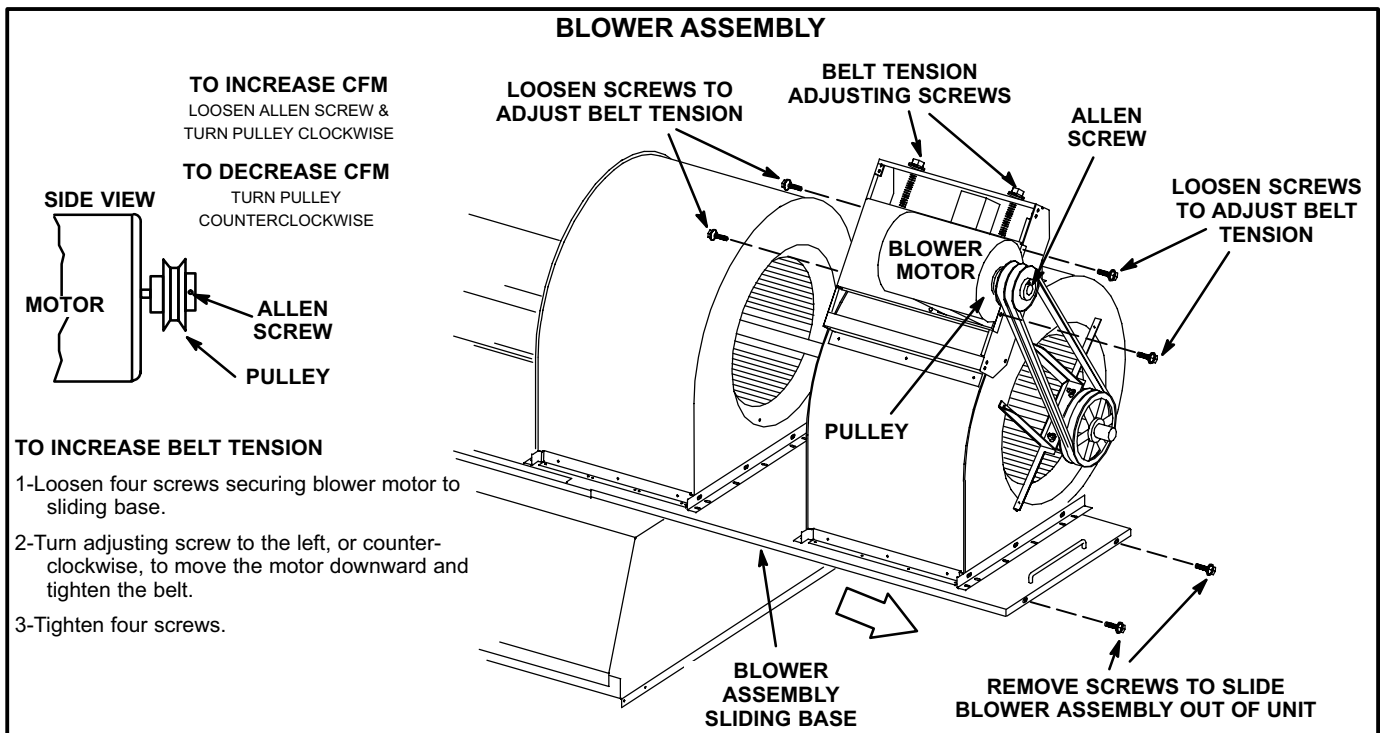

FIGURE 11
- 2- Remove screws on either side of blower assembly sliding base. See figure 11.
- 4- The blower RPM can be adjusted at the motor pulley. Loosen Allen screw and turn adjustable pulley clockwise to increase CFM. Turn counterclockwise to decrease CFM. See figure 11. Do not exceed minimum and maximum number of pulley turns as shown in table 2.
- 1- Loosen four screws securing blower motor to sliding base. See figure 11.